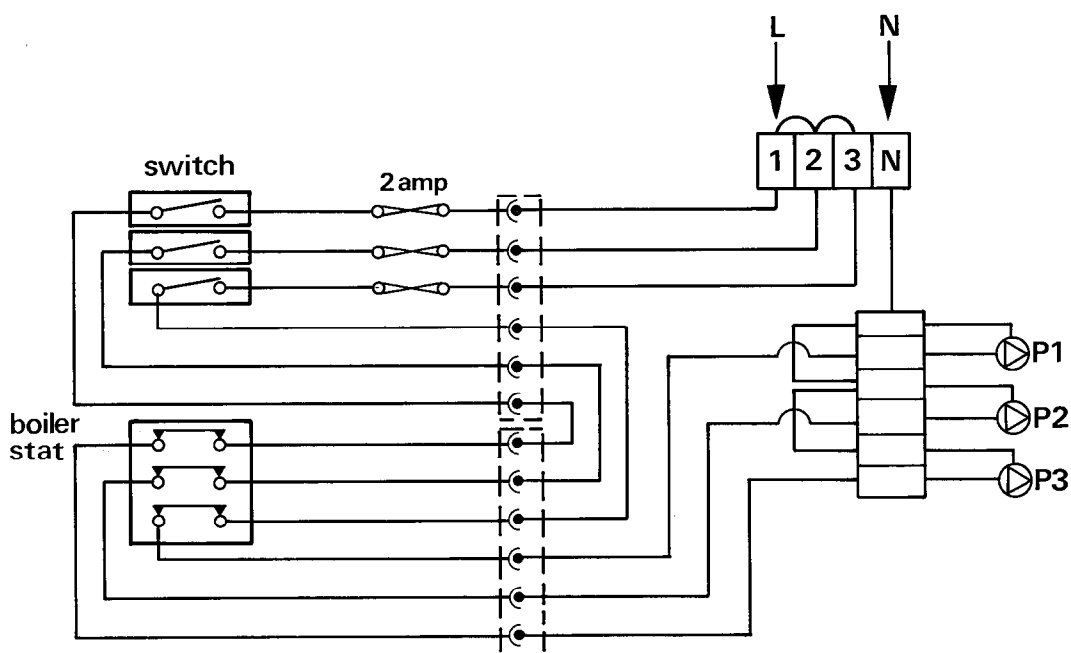

Fig. 12
7) Electrical connections – Connect the boilers to the electrical supply as shown in the wiring diagram (fig. 12).